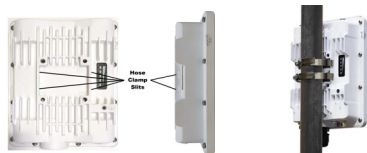

Figure 5: Pole Mounting
1. To pole mount the device, insert the two Hose Clamps through the hose clamp slits at the back of the Device. See Figure 5.